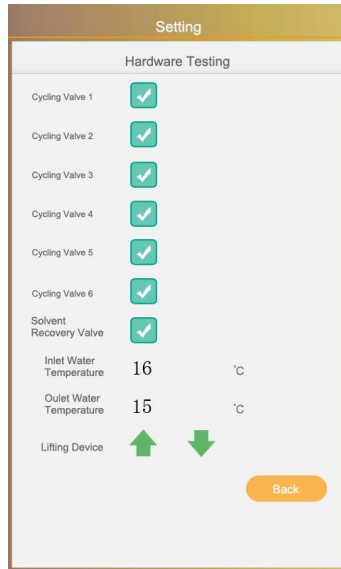

Figure 18
4.2.4.1 Choose [Hardware Testing] item, with interface as shown in figure 18. Click each item for checking whether all functions are normal.